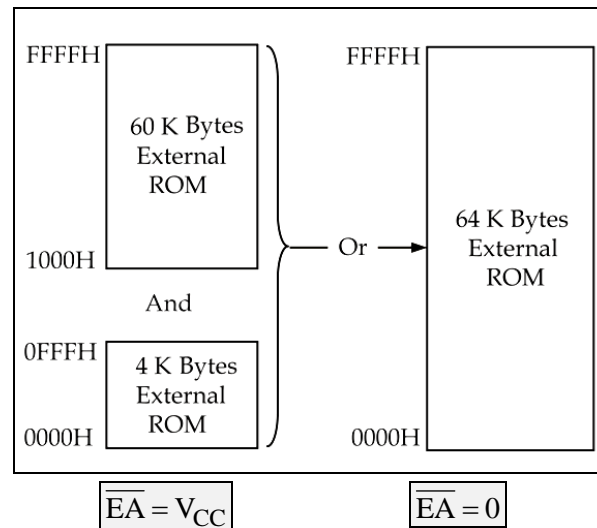

Fig. 1.11
- Fig. 1.11 shows the map of 8051 program memory.